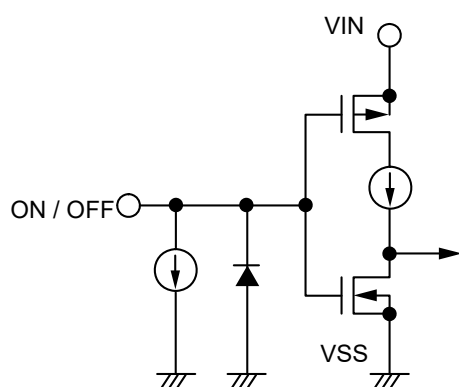
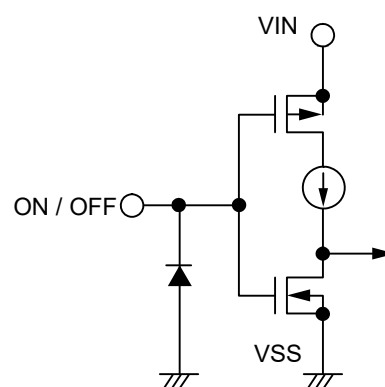

Figure 17 S-1324 Series A / C type
Figure 18 S-1324 Series B / D type
The internal equivalent circuit related to the ON / OFF pin is configured as shown in **Figure 17** and **Figure 18**. Note that the current consumption increases when a voltage of $V_{SL\ max.}^{*1}$ to $V_{IN} - 0.3\ V$ is applied to the ON / OFF pin.
*3. Note that the IC's current consumption increases as much as current flows into the constant current of $0.1\ \mu A$ typ. when the ON / OFF pin is connected to the VIN pin and the S-1324 Series A / C type is operating (refer to **Figure 17**).